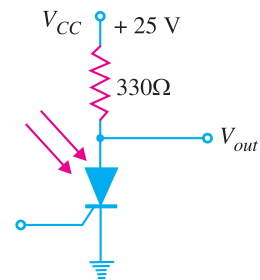

Fig. 20.28
**Example. 20.15.** The circuit of Fig. 20.28 is in a dark room. When a bright light is turned on, the LASCR fires. What is the approximate output voltage? If the bright light is turned off, what is the output voltage?
**Solution.** Fig. 20.28 shows a light-activated SCR, also known as a photo-SCR. When light falls on the device, it starts conducting and the output voltage is ideally,